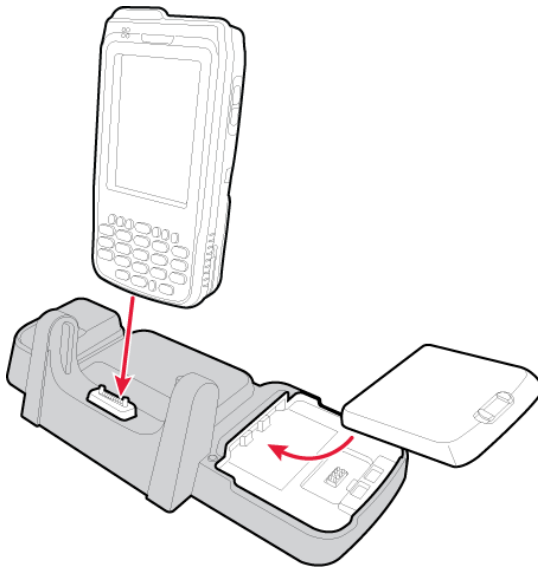

Figure 4. Mobile Computer and Single Dock Station (showing extra battery)
2. Insert the mobile computer onto the computer dock connector (Figure 4).